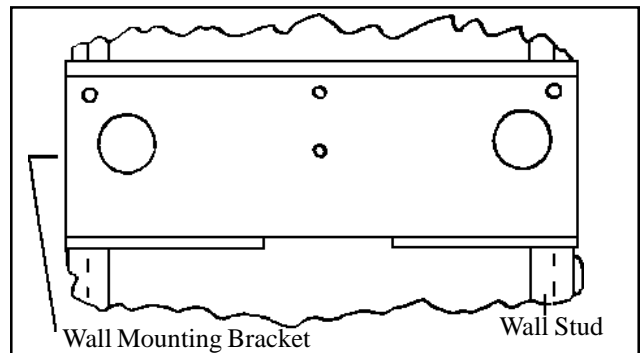

FIGURE 5
STEP 3. Attach wall mounting bracket to wall studs with top at desired height using (2) wood screws provided. Make sure top of bracket is level. See Figure 5.